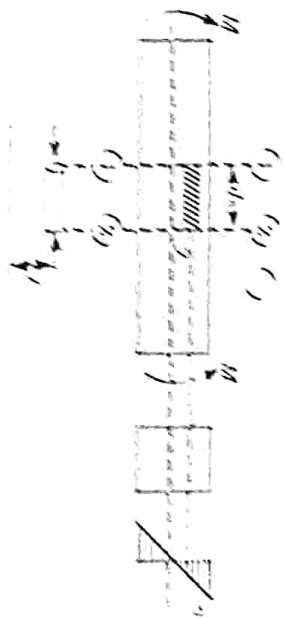

FIG. 2.42.
- 1. A beam element in the Fig. 2.42 is subjected to a uniform moment  $M$ .